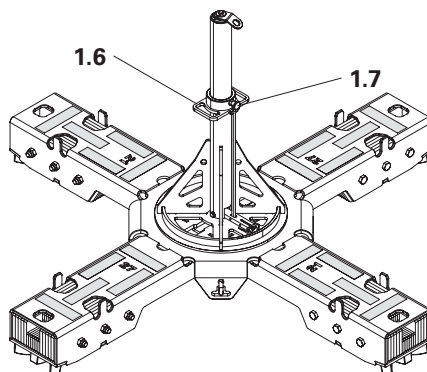
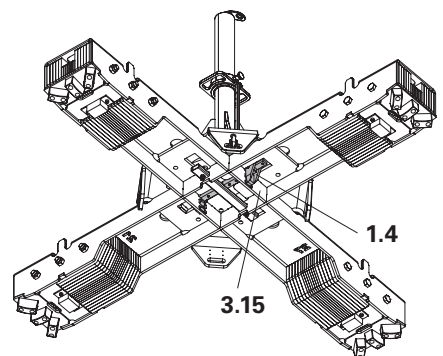

Fig. B3.05
Fig. B3.06
2. Place the base plate of the SKY Anchor (1.3) flat on the SKY-ANCHOR FLEXBASE (3).
- (Fig. B3.05 + Fig. B3.06)